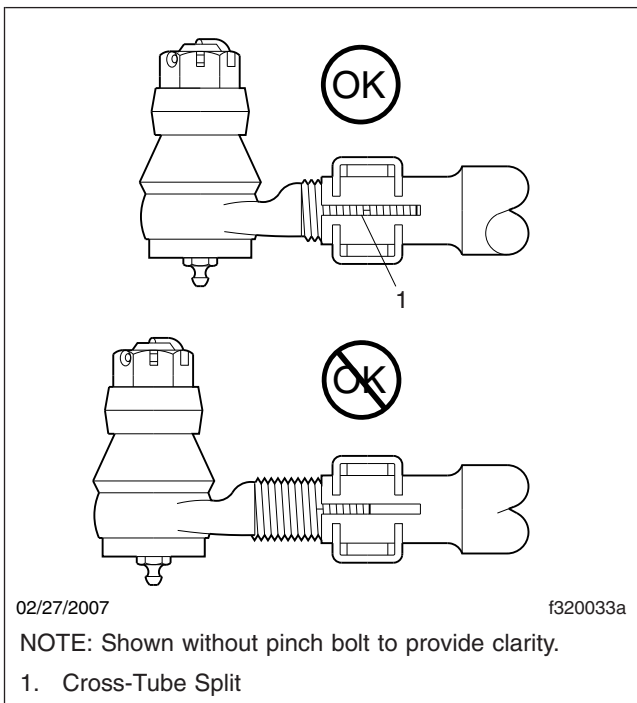

Fig. 7, Tie-Rod End Adjustment
3. The threaded portion of the tie-rod end assembly must be inserted all the way into the cross-tube split for adequate clamping. See **Fig. 7**. Replace the components if this cannot be done. For instructions, refer to **Group 33** of the *Business Class® M2 Workshop Manual*.